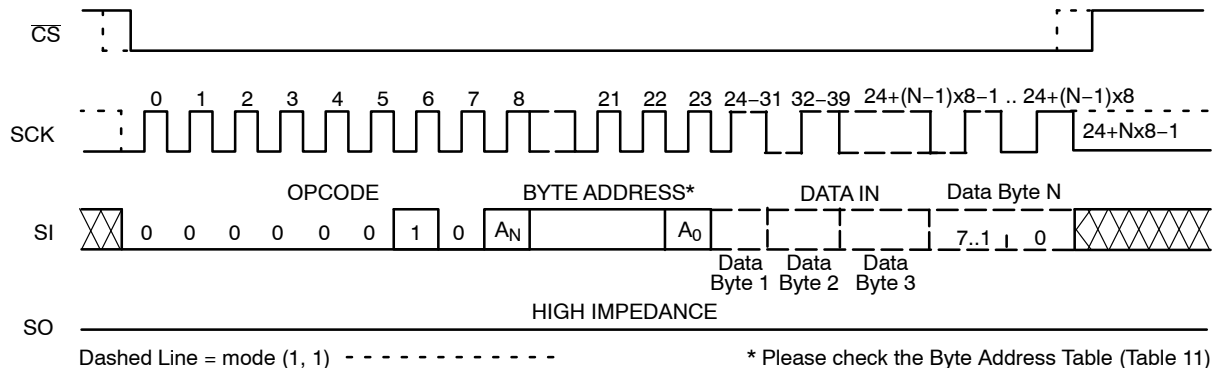

Figure 6. Page WRITE Timing
After sending the first data byte to the CAV25512, the host may continue sending data, up to a total of 128 bytes, according to timing shown in Figure 6. After each data byte, the lower order address bits are automatically incremented, while the higher order address bits (page address) remain unchanged. If during this process the end of page is exceeded, then loading will “roll over” to the first byte in the page, thus possibly overwriting previously loaded data.
The additional 128-byte Identification Page (IP) can be written with user data using the same Write commands sequence as used for Page Write to the main memory array (Figure 6). **The IPL bit from the Status Register must be set (IPL = 1) using the WRSR instruction, before attempting to write to the IP.**